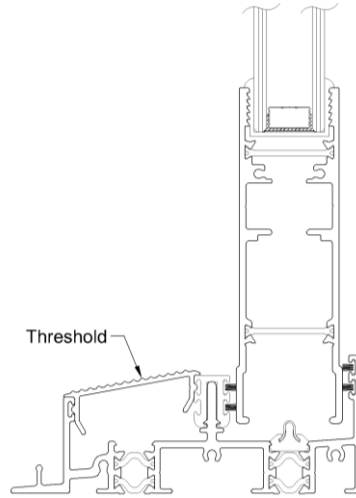

Figure 13a
20. Install the threshold into the exterior track sill shown in figure 13a.